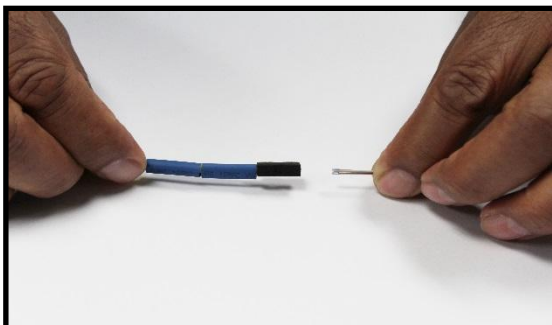

Figure 8
6.2 Bunch the ribbon and evenly stack the fiber ends in order to facilitate the insertion of the fiber ribbons into the properly color-coded Breakout Assembly. **See Figure 8**